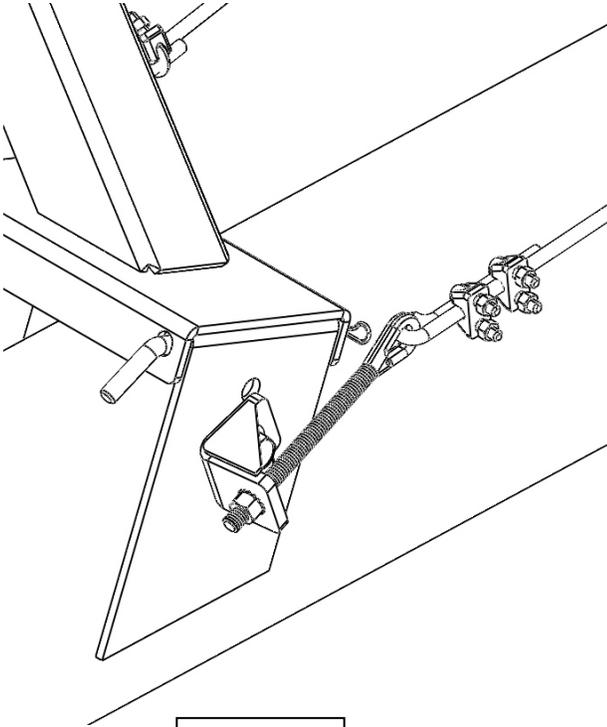
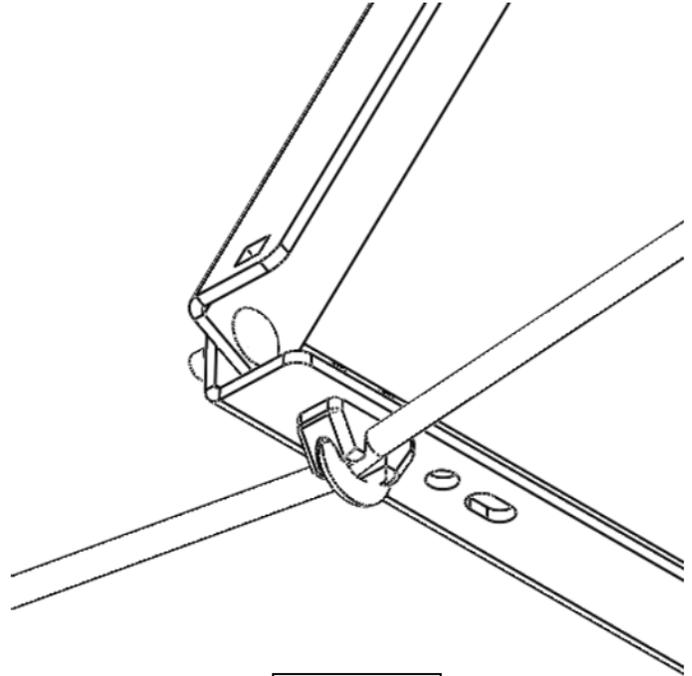

Fig. 24.1
Fig. 24.2
Take 1 short 29 foot cable & attach it to the eyebolt located in the middle of the first tube. Secure using (2) 3/8" cable clamps as shown if fig. 24.1. Pull cable to the bottom truss and through the cable clamp located on the truss. When the cable is through the cable clamp, continue pulling the cable to the quicklink located on the joint between the 2nd & 3rd tube. Secure using (2) 3/8" cable clamps as shown if figure 24.2. Repeat on opposite side of the auger. Always have saddles of the cable clamps on the "live" end of the cable.